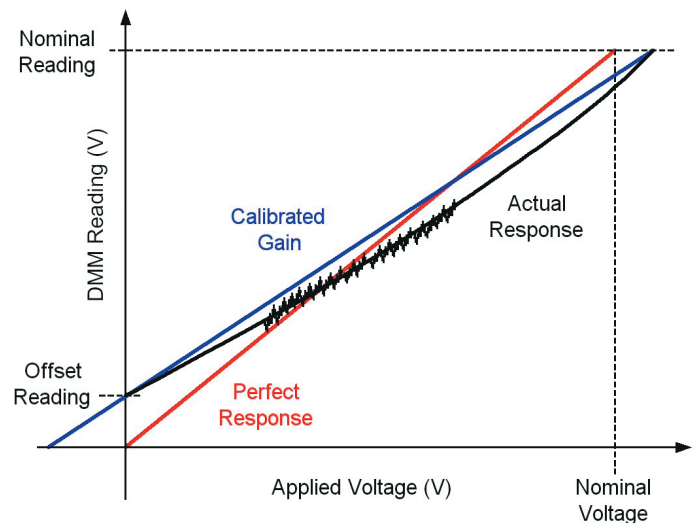

Figure 2: Typical DMM response (the imperfections are highly exaggerated in this figure).
The typical reading of a DMM as a function of applied voltage is shown in Figure 2 (black line). The curve of the line is caused by
- Measure the gains and offsets on all ranges. It is best to measure the gain separately by measuring the change in voltage that generates a particular change in reading (the blue line of Figure 2).